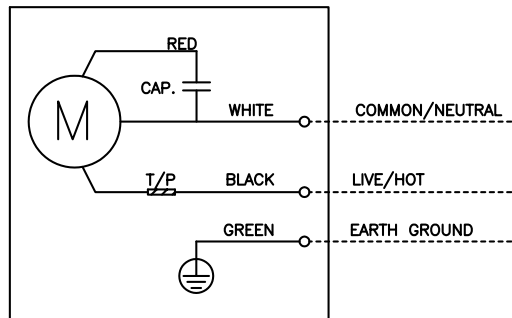

Figure 7
7. For wiring the fan remove wiring cover. Bring field wiring into the junction box. Using proper wiring connectors, wire the fan as shown in Figure 7. Push all wiring back into the fans junction box and replace wiring cover.